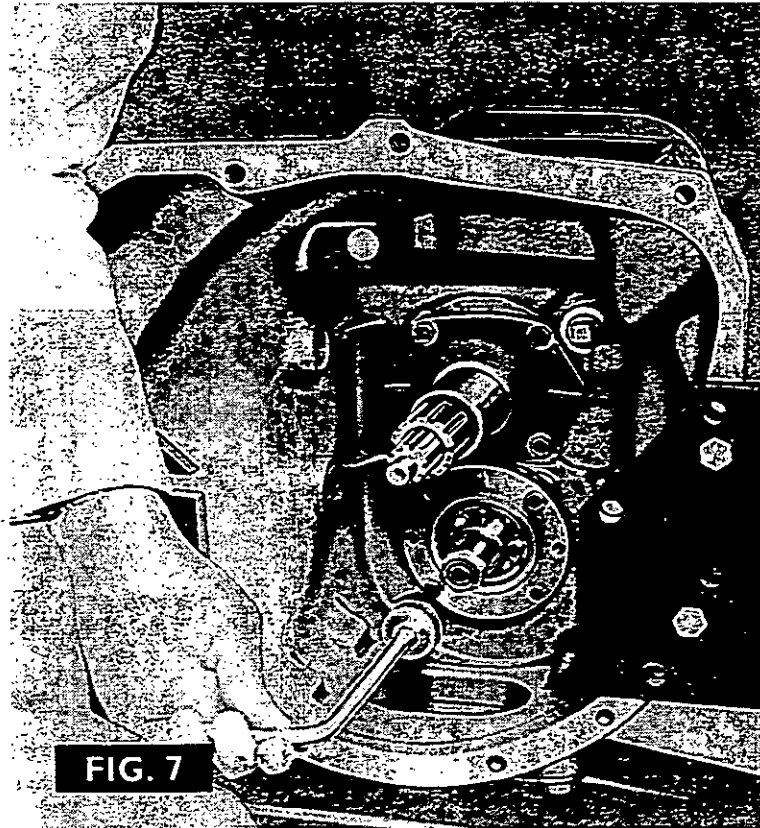

FIG. 7
1. Refit the p.t.o. driveshaft front bearing (60) to its housing (61) and secure it with the circlip (59).
2. Refit the housing (61) together with a new gasket (62) into the transmission case.
3. Fig. 7. Pull the p.t.o. driveshaft (65) into its bearing (60) by using special tool MF 218A and adapter MF218-2.